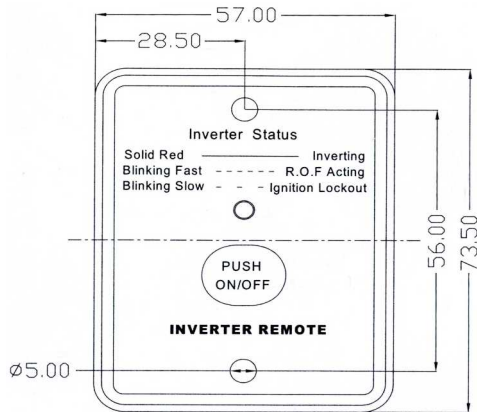

Figure N.2
1. For fastening the remote control are designed two holes with  $\varnothing 5\text{mm}$ , spacing 56mm – according figure N.2.